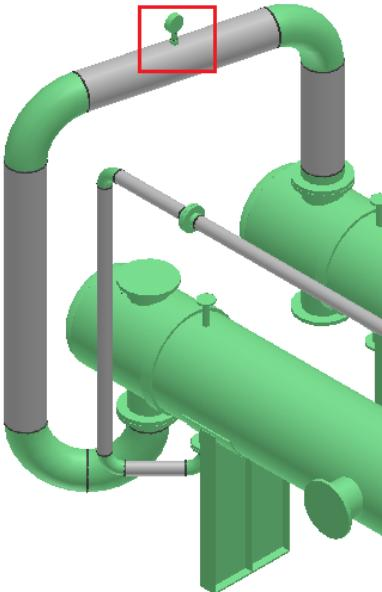

Figure 70: Temperature Indicator on 403-P Pipeline
- Now place a temperature indicator **TI-1504** on the pipeline **403-P**, as shown in figure 70.